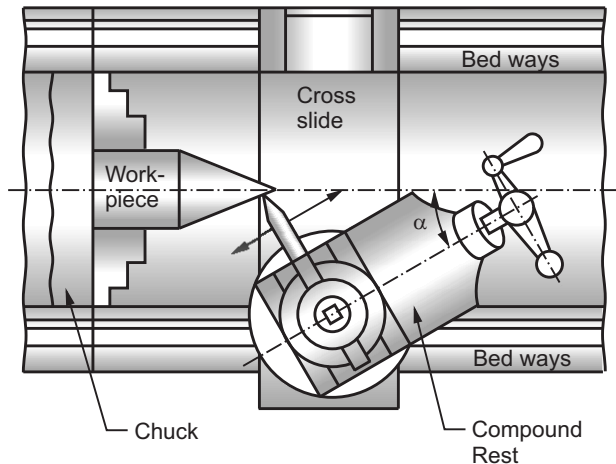

**Fig. 5.8 : Eccentric turning**
- The turning of different surfaces of the workpiece is known as eccentric turning. Refer Fig. 5.8.